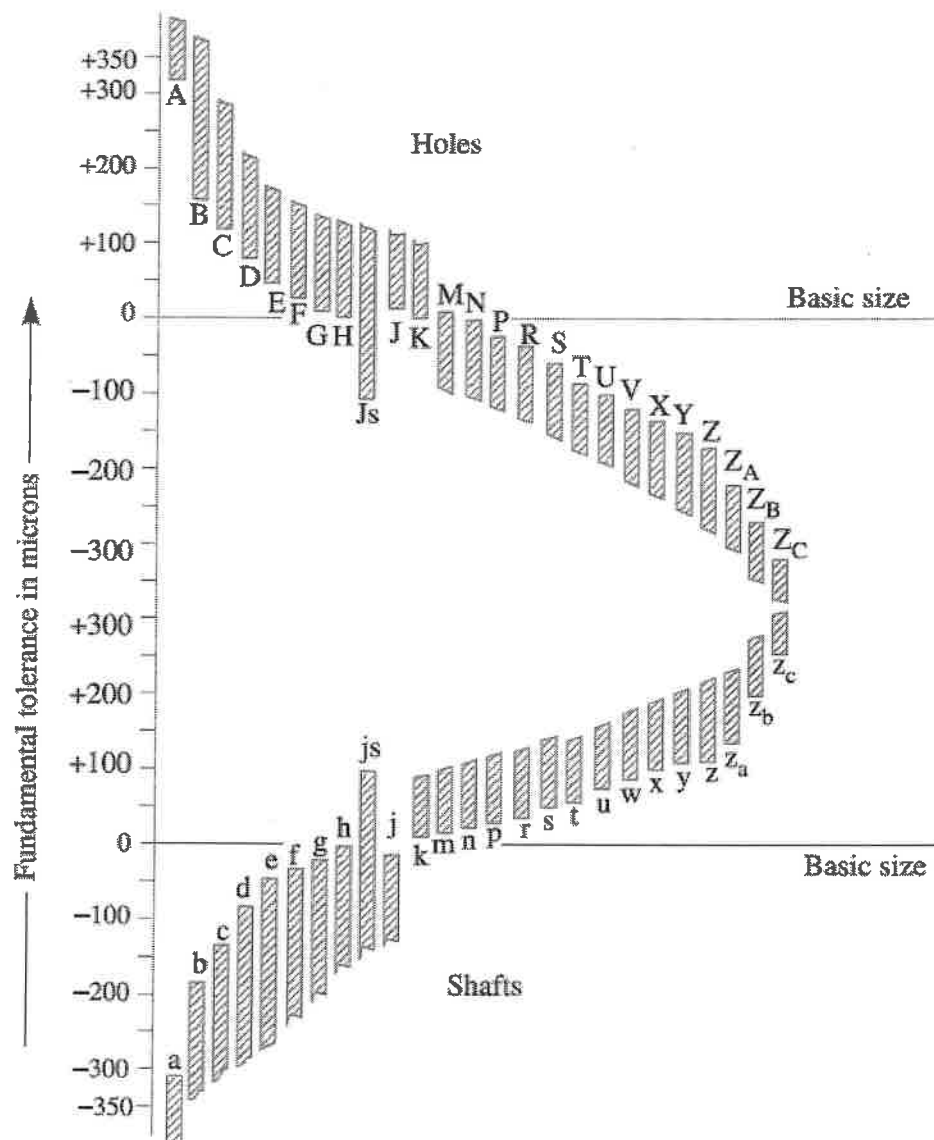

Figure Q1 The alphabetical representation of fundamental deviations for the basic shaft and basic hole system
- b) Compare the following three mating shaft-hole pairs. Use the alphabetical representation of fundamental deviations for the basic shaft and basic hole system shown in Figure Q1. A comparison of tolerance zone heights is expected in your answer. Use a **common zero line** in your sketch.